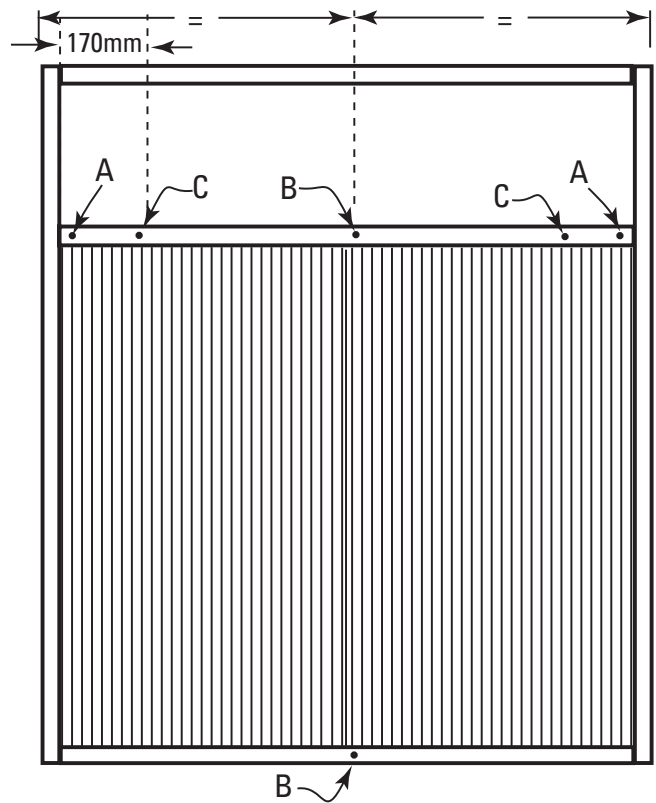

Figure 22.4
10. For gate with 'Plus' option, drive an additional #10-16x16 screw into the two corners of the lower top rail passing through the lattice clip in alignment with Position A (Figure 22.4)
13. For extra wide gate with lattice additional screws are required (Figure 22.4)